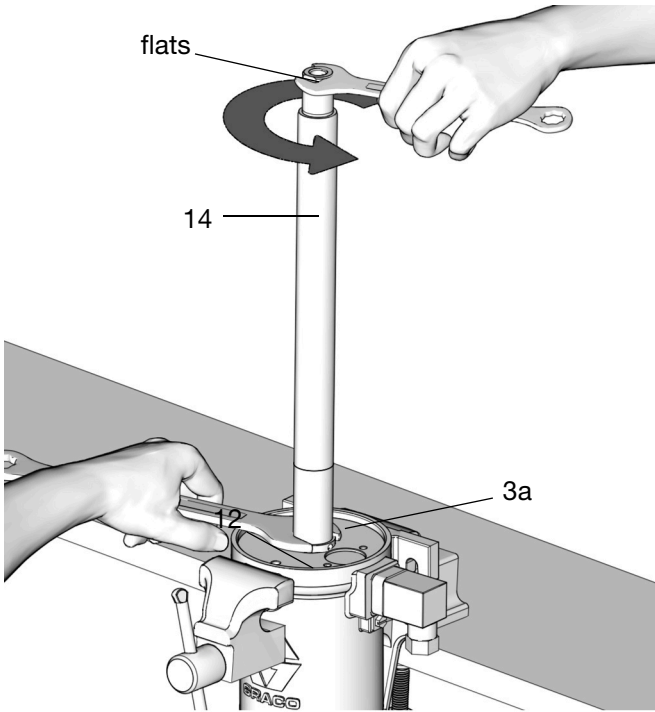

FIG. 15
12. Securely hold the nut (3a), located on the bottom of the pump cylinder (12), in place with a wrench. Secure a second wrench on the flats of the outlet tube (14). Turn the outlet tube counter-clockwise to loosen and remove it from the pump cylinder (12) (FIG. 15).